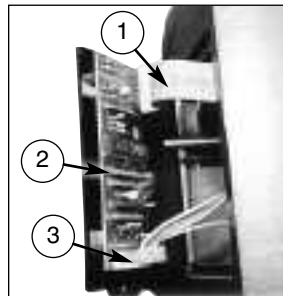

Fig. 3 CDS Driver Printed Circuit Board. (1) 16-Pin Ribbon Cable; (2) Driver PCB; (3) Dec Motor Cable.
3. Inside the Declination housing, you will see the Declination motor and cord with connector. Attach the Dec motor cord, (3), Fig. 3, to the Driver printed circuit board (PCB), (2), Fig. 3. Note the correct orientation of the connector, as shown in Fig. 3.
4. On the Driver PCB, on the opposite side of the Dec motor cord (3), Fig. 3, look for a piece of electrical tape covering the circuitry. If the tape is not in place and the circuitry is visible, place a piece of electrical tape over this area to prevent the contacts from rubbing against the polar shaft during the installation process. Leave the electrical tape in place after the Driver PCB is installed.
5. The Driver PCB has a 16-pin ribbon cable (1), Fig. 3 already attached to the new cover plate. Feed this cable into the Declination housing as shown in Fig. 3.